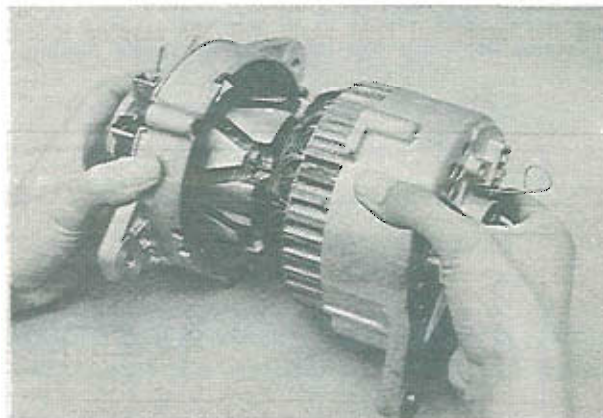

Fig. 5-26 Installing rotor assembly
1. When installing the rotor assembly to the rear housing and stator assembly, hold the brushes in position by inserting a piece of stiff wire into the hole of the brush through the rear housing as shown in Fig. 5-26.